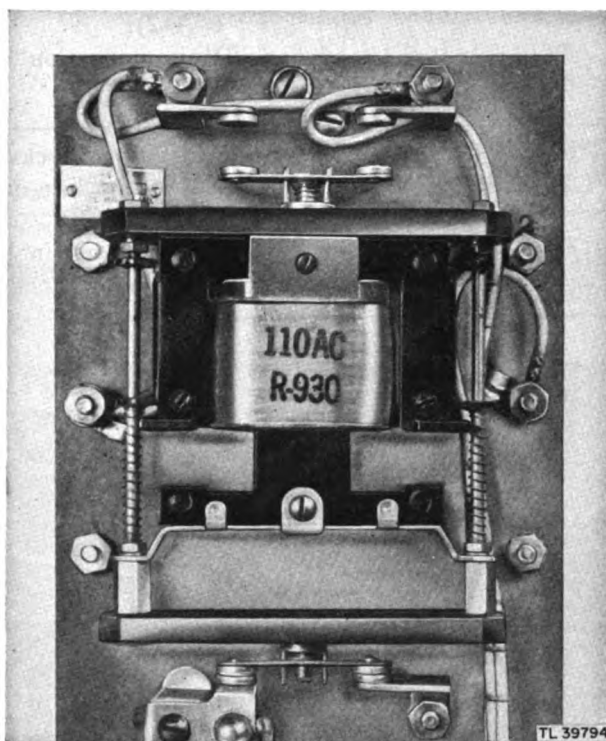

Figure 161. Capacitor shorting relay.
- c. Open-circuited coil in capacitor shorting relay 4-E-1 (fig. 161).